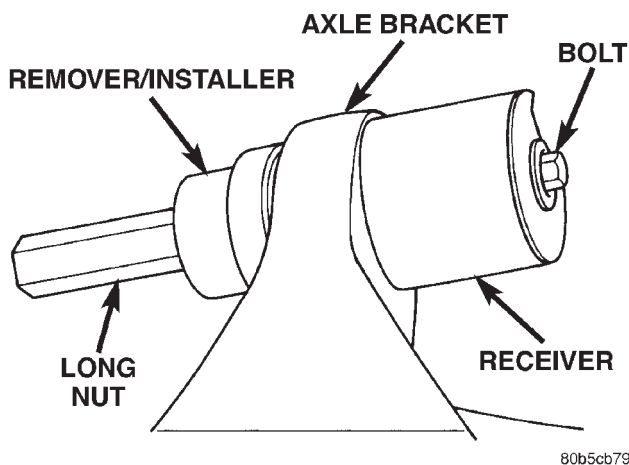

Fig. 5 Bushing Installation
- (1) Place Receiver 7932-1 on the other side of the axle bracket.
- (2) Position new bushing up to the axle bracket, and large end of Remover/Install 7932-2 against the bushing (Fig. 5).
- (3) Install bolt 7604 through receiver, bushing and installer.
- (4) Install Long Nut 7603 and tighten nut to draw the bushing into the axle bracket.